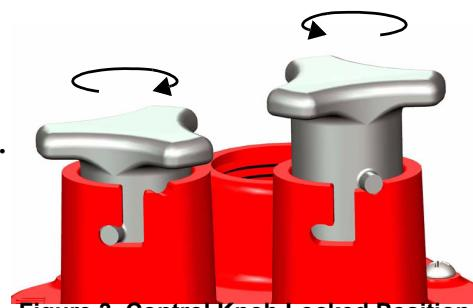

Figure 3. Control Knob Locked Position
3. Always lock the control knob into position by rotating knob into the shown positions, see **Figure 3**.